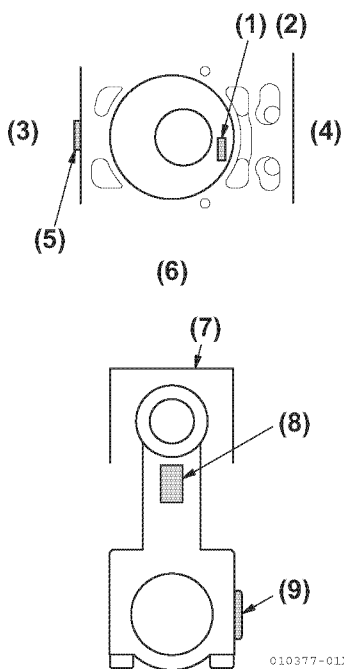
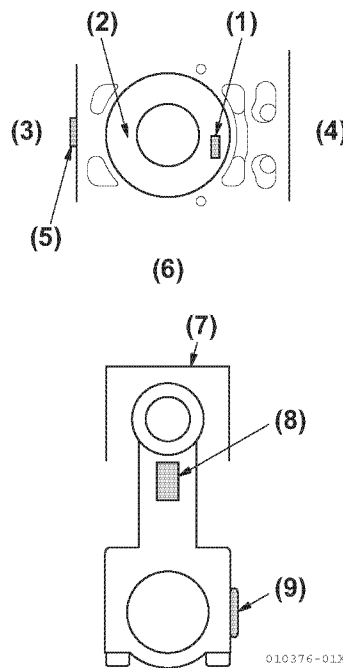

Figure 5-140
Figure 5-141
- After inserting the piston, make sure the ID marks (size mark and model mark) on the piston top are in the correct position, looking from the top of the piston (**Figure 5-140**) and (**Figure 5-141**).